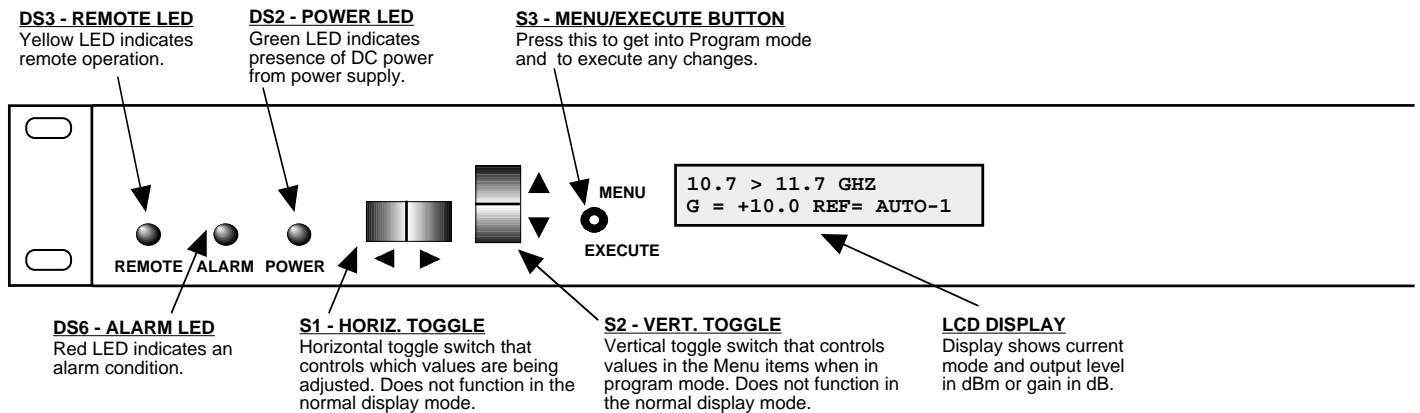

FIGURE 2.2 3116-107 Front Panel Controls and Indicators
Figure 2.2 shows the front panel controls and indicators.
6. Be sure DS2 (green, DC Power) is on and DS6 (red, Alarm) is off (Figure 2.2).
Alarm indications appear on the LEDs (see Figure 2.2).